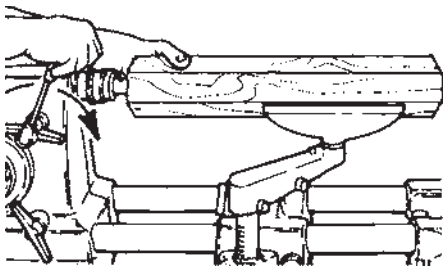

Figure C-43
- e. Hold the end of the stock against the cup center, then extend the quill and mount the other end on the drive center. Press hard against the quill feed lever you will see the tailstock flex (this is normal), then lock the quill. See Figure C-43.